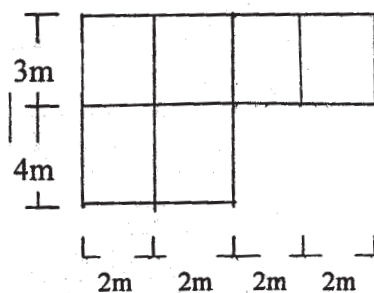

Figure 5.1
- Q5)** Determine the design eccentricity in Y-direction for a three storey building as shown in Figure 5.1. The total seismic weight /floor= 450kN . The column size = $400\text{mm} \times 600\text{mm}$. Assume grade of concrete = M25. [18]